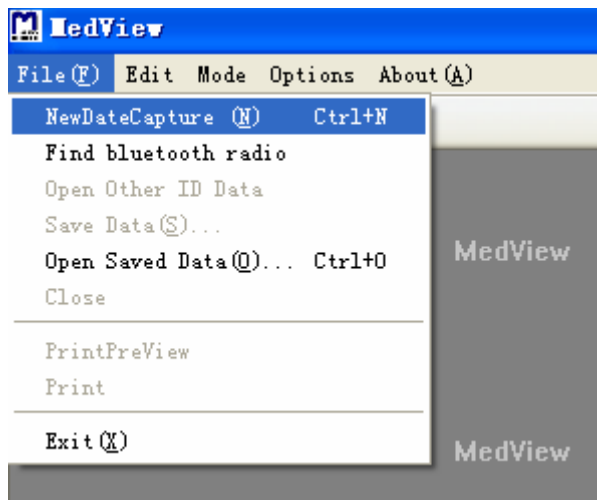

Figure 3-2
3.2.2 Click the “File(F)” icon, then click the “NewDateCapture” in the drop-down menu, as shown in Figure 3-2.